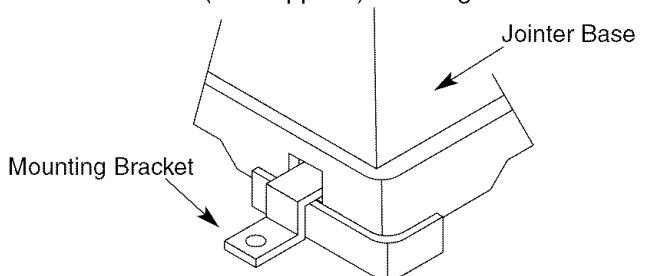

Figure 6 - Use Mounting Brackets to Secure Jointer
- Jointer/planer can be installed on a workbench using mounting brackets provided and bolts, lock washers and hex nuts (not supplied). See Figure 6.